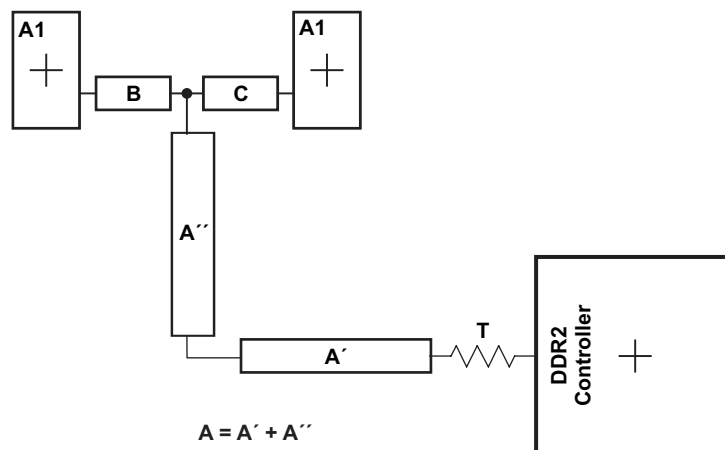

Figure 8-52. CK and ADDR_CTRL Routing and Topology
Figure 8-52 shows the topology of the routing for the CK and ADDR_CTRL net classes. The route is a balanced T as it is intended that the length of segments B and C be equal. In addition, the length of A ($A' + A''$) should be maximized.
(1) The length of segment A = A' + A'' as shown in Figure 8-52.
(2) Series terminator, if used, should be located closest to the processor.
(3) Center-to-center spacing is allowed to fall to minimum (w) for up to 500 mils of routed length to accommodate BGA escape and routing congestion.
(4) CACLM is the longest Manhattan distance of the CK and ADDR_CTRL net classes.